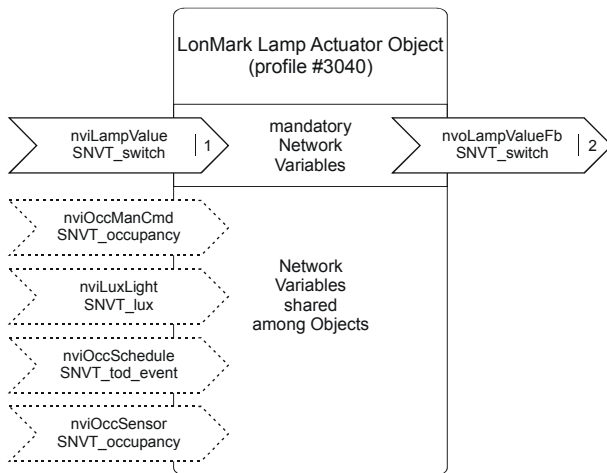

Fig. 5. Lamp Actuator Object
- three lamp actuator objects (#3040) (see Fig. 5)